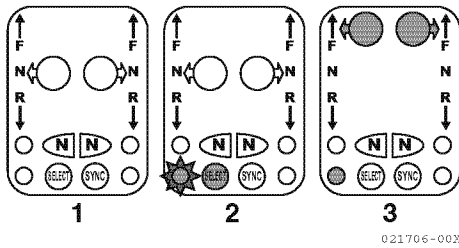

Figure 12
1. (1, **Figure 12**) shows a typical inactive station.
2. Press the SELECT button (2, **Figure 12**). The button lights (grayed in **Figure 12**) and the station select light flashes (star around light in (**Figure 12**)).
3. Move the handle(s) to F (forward) or R (reverse) throttle to match the handle location of the active station (3, **Figure 12**). The corresponding handle button lights glow steadily (grayed in (3, **Figure 12**)) and the station select light glows steadily (grayed in (3, **Figure 12**)).